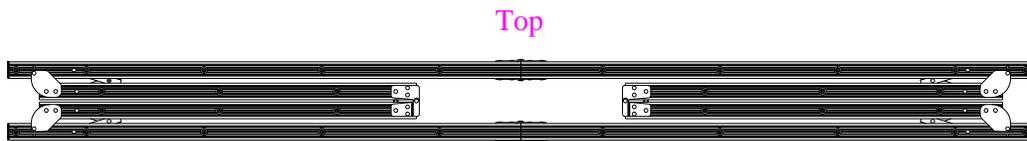

fig 2
2. Once the main joints are unfolded, make sure that the snap latches "click" into the locked position. The frame should now be fully elongated as in (fig2). **Note: The snap latches will automatically lock when the joint is straightened. Press the snap latch button in order to release the lock.*